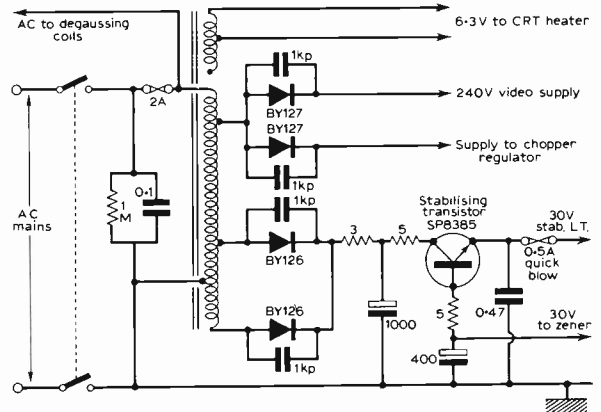

Fig. 4: Autotransformer arrangement providing one full-wave and two half-wave d.c. supplies as used in the Thorn-BRC 3000 series single-standard colour chassis.
H.T. and l.t. supplies from autotransformers in the past have been via single rectifiers giving half-wave output and therefore requiring considerable smoothing. However in the latest BRC 3000 single-standard colour chassis the neutral connection is tapped into a point some way up from the earthy end of the winding permitting full-wave rectification of a 30V supply as shown in Fig. 4. The  $1,000\mu\text{F}$  electrolytic is the reservoir capacitor and the supply is then taken via an SP8385 series stabiliser transistor. This transistor operates in conjunction with